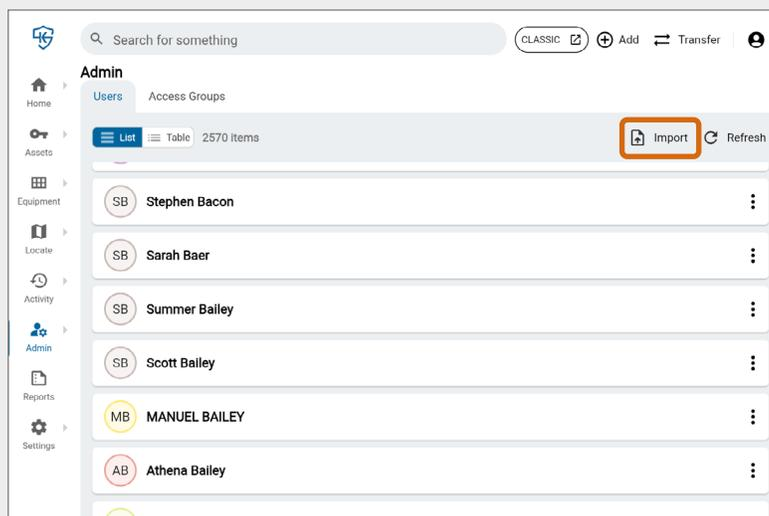

Fig. 213 – Users tab with Import button indicated
3. On the **Users** tab of the **Admin** screen, select **Import**, as shown in Fig. 213.